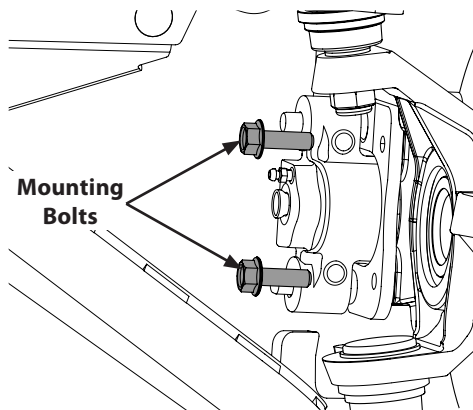

Figure 4-11
1. Remove mounting bolts securing caliper and brake pads to steering knuckle. See Figure 4-11.